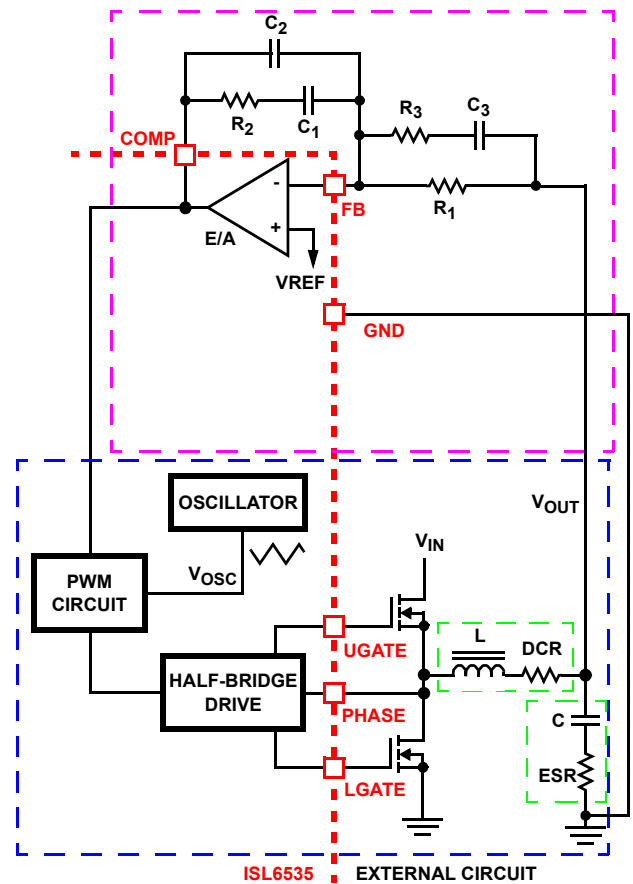

FIGURE 7. VOLTAGE-MODE BUCK CONVERTER COMPENSATION DESIGN
Figure 7 highlights the voltage-mode control loop for a synchronous-rectified buck converter. The output voltage is regulated to the reference voltage level. The error amplifier output is compared with the oscillator triangle wave to provide a pulse-width modulated wave with an amplitude of  $V_{IN}$  at the PHASE node. The PWM wave is smoothed by the output filter. The output filter capacitor bank's equivalent series resistance is represented by the series resistor ESR.
1. Select a value for  $R_1$  (1k $\Omega$  to 10k $\Omega$ , typically). Calculate value for  $R_2$  for desired converter bandwidth ( $F_0$ ). If setting the output voltage to be equal to the reference set voltage as shown in Figure 7, the design procedure can be followed as presented. As the ISL6535 supports 100%